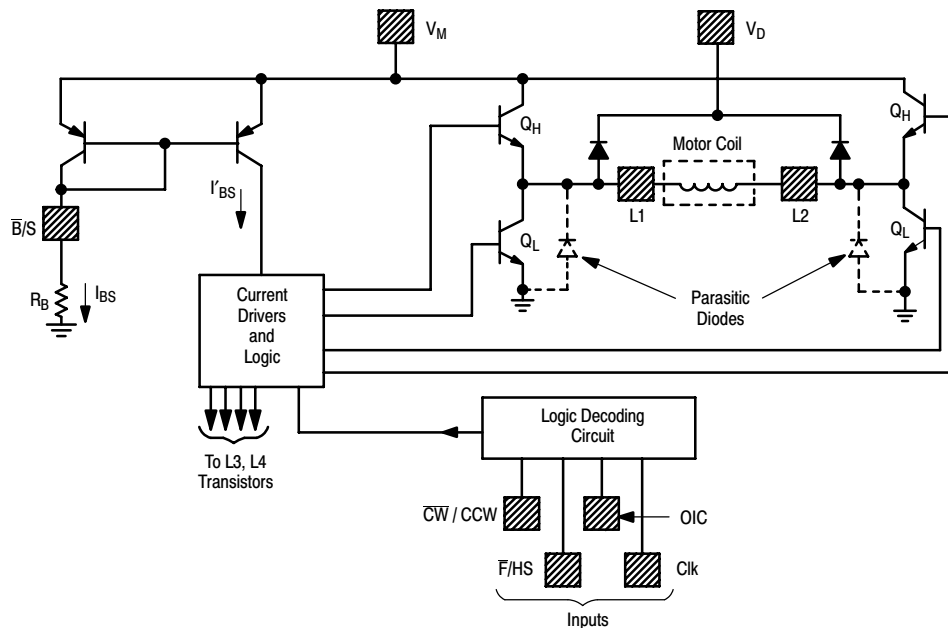
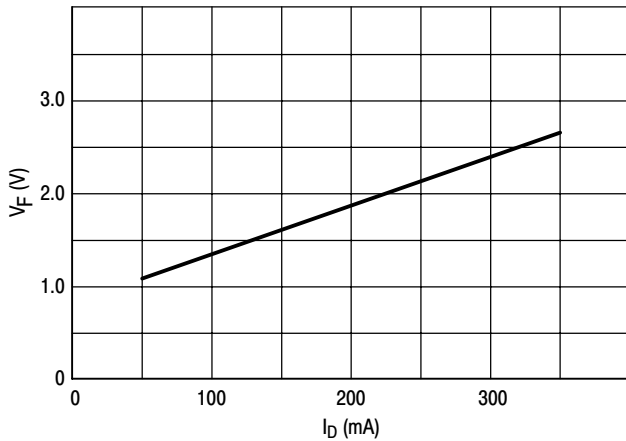
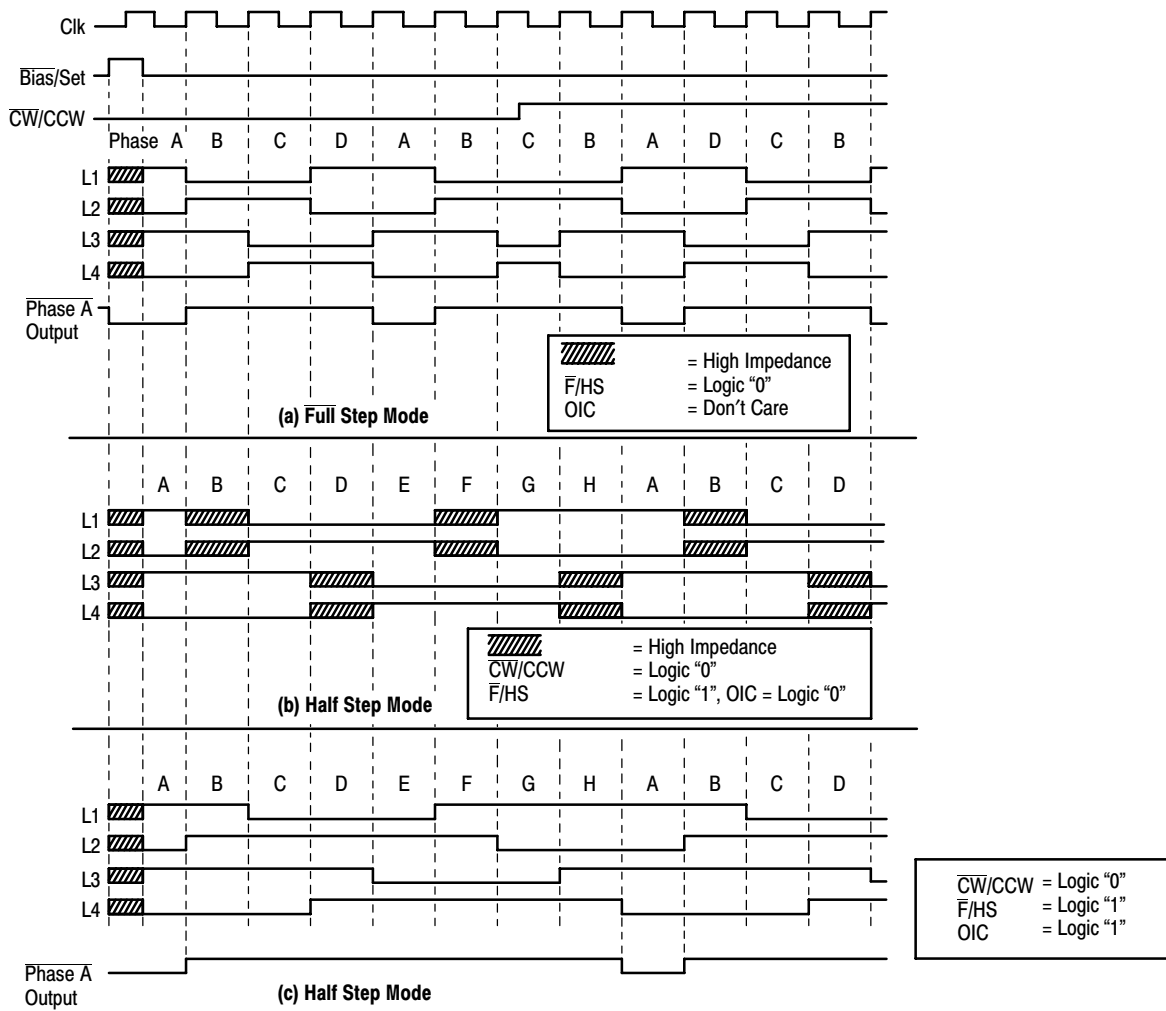
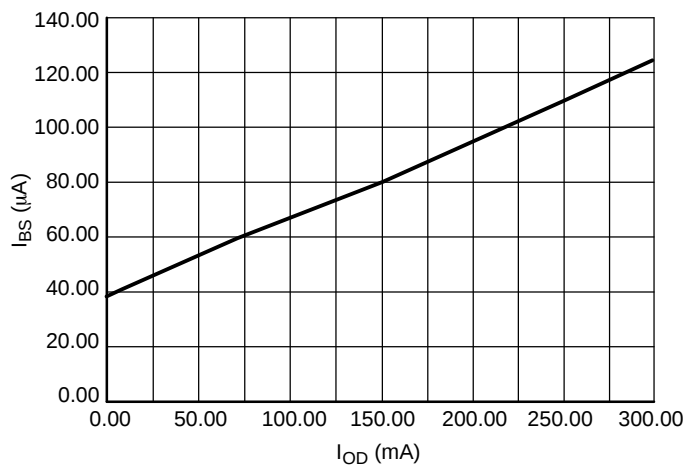

Figure 5. Output Stages
Figure 6. Clamp Diode Characteristics
Figure 7. Output Sequence
Figure 11. Bias/Set Current – Output Drive Current
The outputs (L1-L4) are high current outputs (see Figure 5), which when connected to a two-phase motor, provide two full-bridge configurations (L3 and L4 are not shown in Figure 5). The polarities applied to the motor coils depend on which transistor (Q_H or Q_L) of each output is on, which in turn depends on the inputs and the decoding circuitry.
are to be in a high impedance state, both transistors (Q_H and Q_L of Figure 5) of each output are off.
This pin allows for provision of a current path for the motor coil current during switching, in order to suppress back-EMF voltage spikes. V_D is normally connected to V_M (Pin 16) through a diode (zener or regular), a resistor, or directly. The peaks instantaneous voltage at the outputs must not exceed V_M by more than 6.0 V. The voltage drop across the internal clamping diodes must be included in this portion of the design (see Figure 6). Note the parasitic diodes (Figure 5) across each Q_L of each output provide for a complete circuit path for the switched current.
When this input is at a Logic “0” (< 0.8 V), the outputs change a full step with each clock cycle, with the sequence direction depending on the $\overline{CW}/CCW$ input. There are four steps ($\overline{\text{Phase A}}$, $\overline{\text{B}}$, $\overline{\text{C}}$, $\overline{\text{D}}$) for each complete cycle of the sequencing logic. Current flows through both motor coils during each step, as shown in Figure 7.
When taken to a Logic “1” (>2.0 V), the outputs change a half step with each clock cycle, with the sequence direction depending on the $\overline{CW}/CCW$ input. Eight steps ($\overline{\text{Phase A}}$ to $\overline{\text{H}}$) result for each complete cycle of the sequencing logic. $\overline{\text{Phase A}}$, $\overline{\text{C}}$, $\overline{\text{E}}$ and $\overline{\text{G}}$ correspond (in polarity) to $\overline{\text{Phase A}}$, $\overline{\text{B}}$, $\overline{\text{C}}$, and $\overline{\text{D}}$, respectively, of the full step sequence. $\overline{\text{Phase B}}$, $\overline{\text{D}}$, $\overline{\text{F}}$ and $\overline{\text{H}}$ provide current to one motor coil, while de-energizing the other coil. The condition of the outputs of the de-energized coil depends on the OIC input, see Figure 7 timing diagram.
The output impedance control input determines the output impedance to the de-energized coil when operating in the half-step mode. When the outputs are in $\overline{\text{Phase B}}$, $\overline{\text{D}}$, $\overline{\text{F}}$ or $\overline{\text{H}}$ (Figure 7) and this input is at a Logic “0” (<0.8 V), the two outputs to the de-energized coil are in a high impedance condition – Q_L and Q_H of both outputs (Figure 5) are off. When this input is at a Logic “1” (>2.0 V), a low impedance output is provided to the de-energized coil as both outputs have Q_H on (Q_L off). To complete the low impedance path requires connecting V_D to V_M as described elsewhere in this data sheet.
a) The maximum output sink current is determined by the base drive current supplied to the lower transistors (Q_Ls of Figure 5) of each output, which in turn, is a function of I_{BS}. The appropriate value of I_{BS} can be approximated using Figure 11.
For example, assume an application where $V_M = 12$ V, the motor requires 200 mA/coil, operating at room temperature with no heatsink on the IC. From Figure 11, I_{BS} is determined to be 95 μ A.